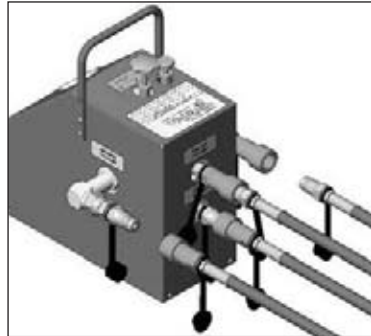

Figure 5
2. Clean all hydraulic couplings before making connections using a clean dry cloth. Connect foot control valve to hydraulic power source using fittings on either side of foot control valve. Hydraulic pressure from power source to connect to fitting labeled "INLET PRESSURE" on side of foot control valve. Connect return line from power source to fitting labeled "RETURN TO TANK" on side of foot control valve. See Fig. 5.